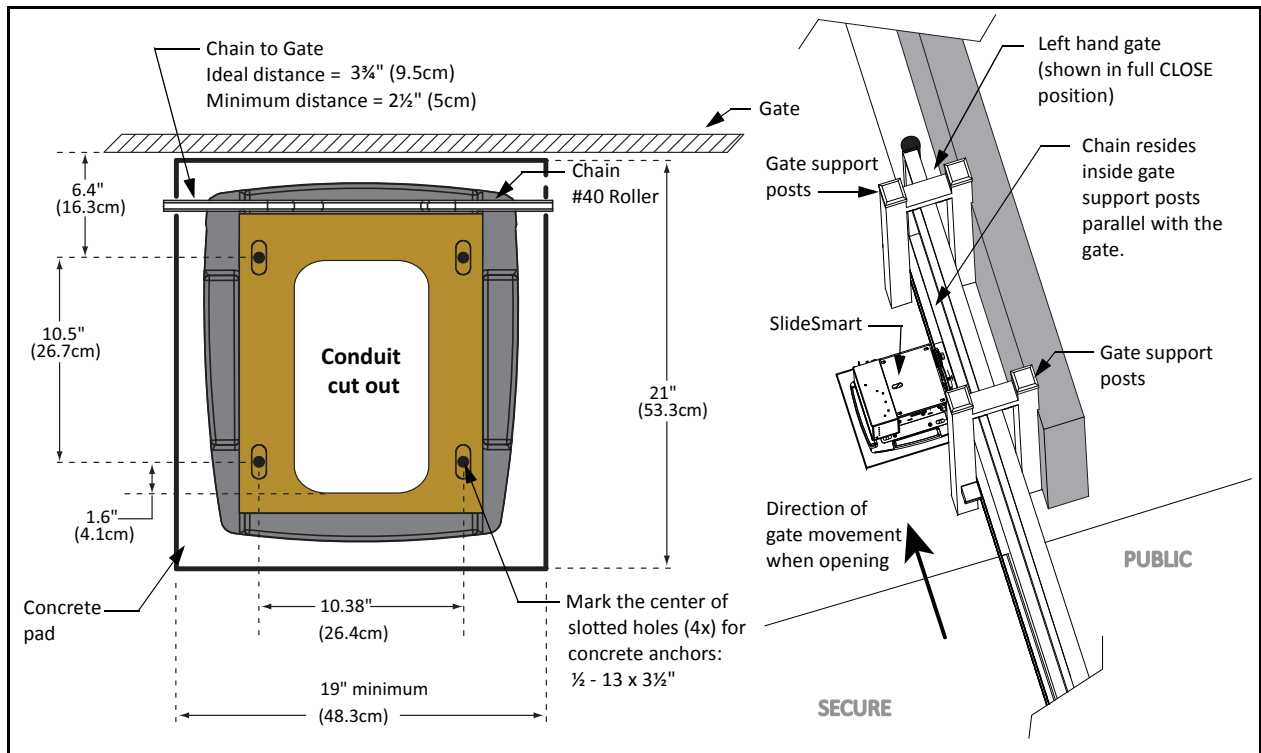

Figure 1-9.
2. Assess any limitations in the chain path such as gate support posts. Adjust the operator's location as required. Mark the mounting locations based on gate, operator, and chain requirements. Mark the drill point at the center of the slot to allow for adjustments. See Figure 1-4 and Figure 1-9.